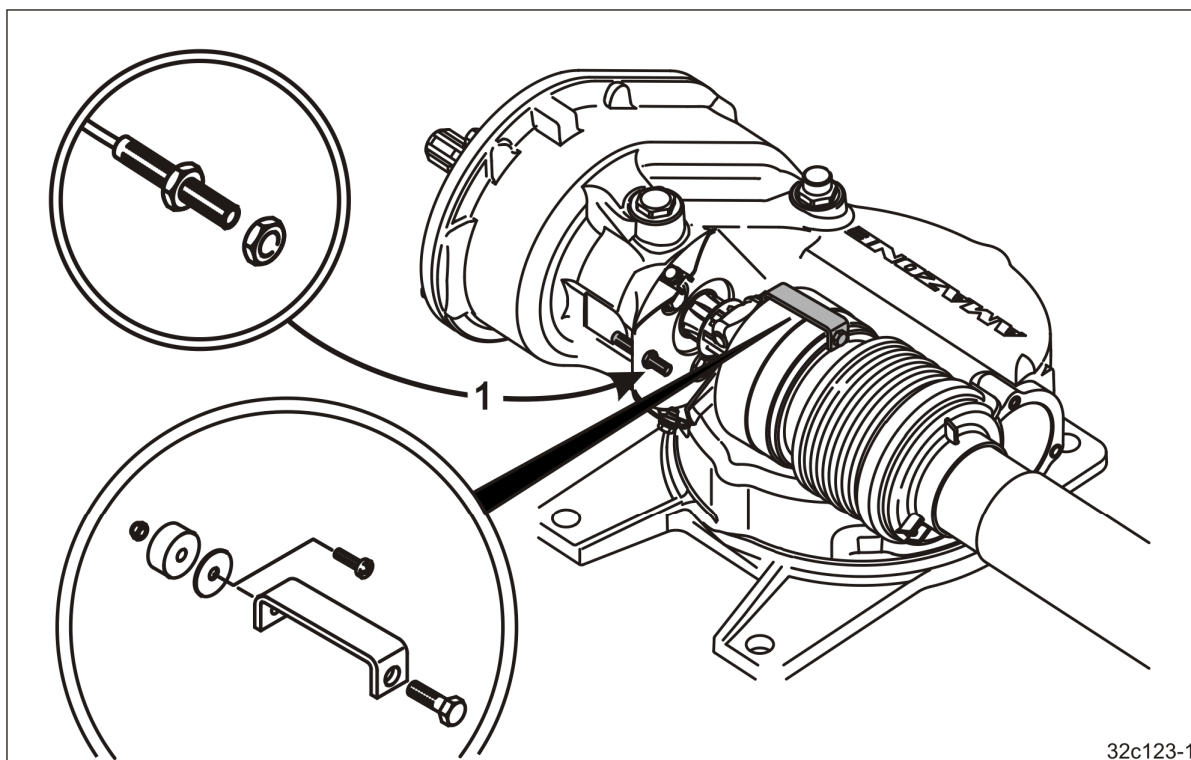

Fig. 41
- sensors (Fig. 41/1) installed on the gearbox, in combination with Walterscheid universal joint shafts.